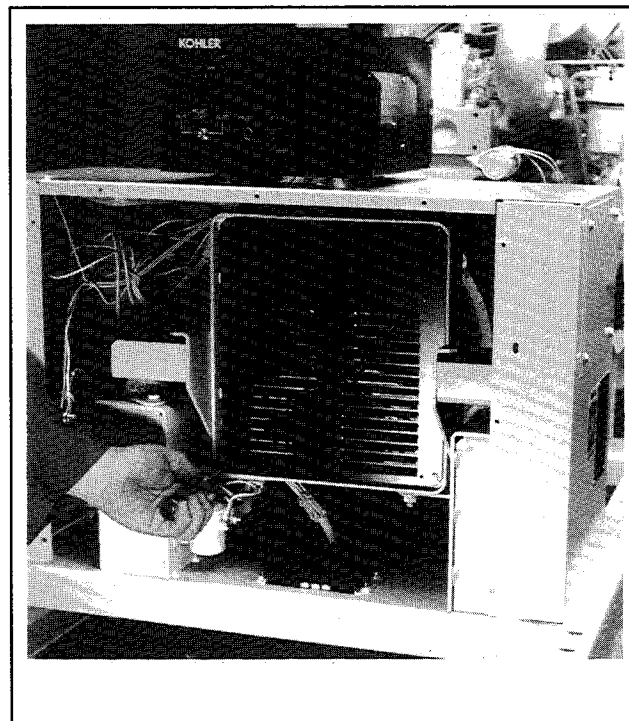

Figure 8-4. End Bracket Panel
5. Remove four screws attaching end bracket panel and remove panel. See Figure 8-4.